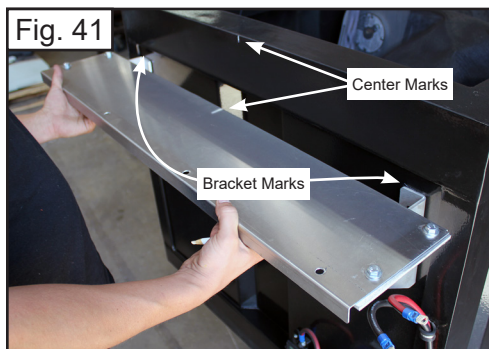

Fig. 41
Step 4: To set the marks for drilling the bracket holes, place the tray and brackets up against the box and center, using the center marks. The top of the bracket should be 5 inches from the top of the box (Fig. 41).